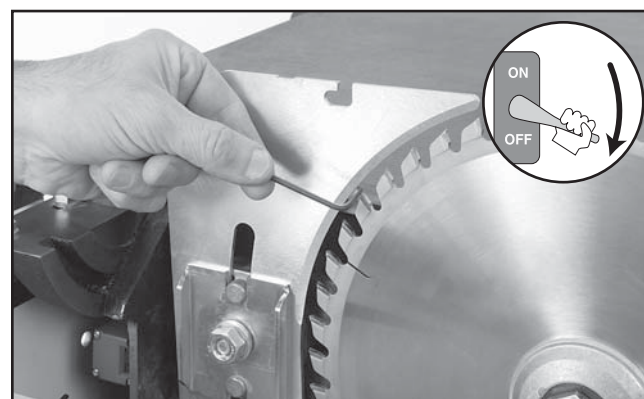

Figure 24. Adjusting the riving knife.
18. Position the riving knife just below the highest point and about 3mm or 1/8" away from the main blade. **Note:** For a quick gauge, use a 3mm hex wrench to find the correct spacing between the blade and the riving knife, as shown in Figures 24 & 25.